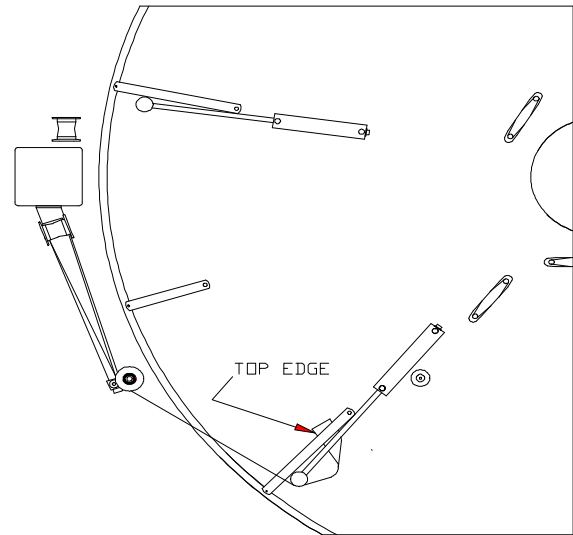

Figure 3
14. Thread the film through the Take-Up to the Loop Disk. Wrap the film around one of the Make-Up Guide Knobs and tuck it under the rubber strip as shown in Fig. 3.
14. Thread the film through the Take-Up to the Loop Disk. Wrap the film around one of the Make-Up Guide knobs and tuck it under the rubber strip as shown in Figure 3, page 4.